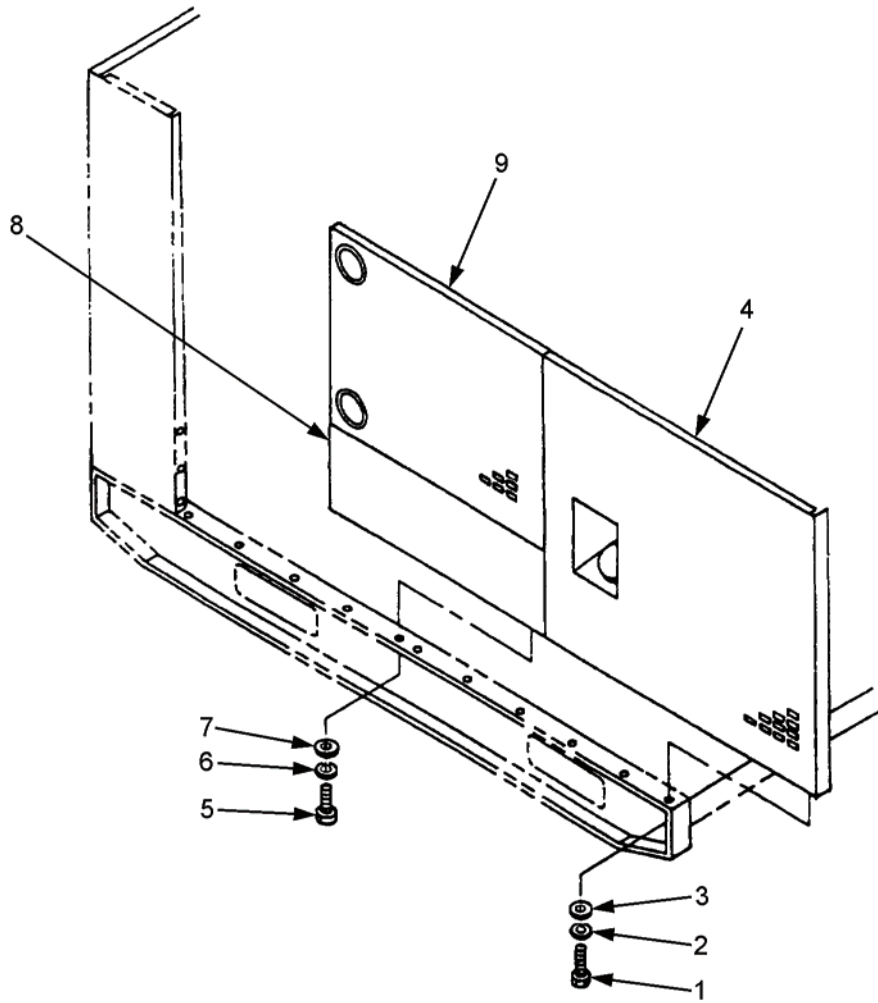

Figure 5-13. Left Rear Side Panel.
- b. Remove four bolts (1, Figure 5-13), lock washers (2), and washers (3) securing left rear side panel (4) to skid base. Discard lock washers (2).
- c. Remove seven bolts (5), lock washers (6), and washers (7) securing lower left side panel (8) to skid base. Discard lock washers (6).
- d. With aid of an assistant, remove left rear side panel (4), lower left side panel (8), and door (9) as an assembly.